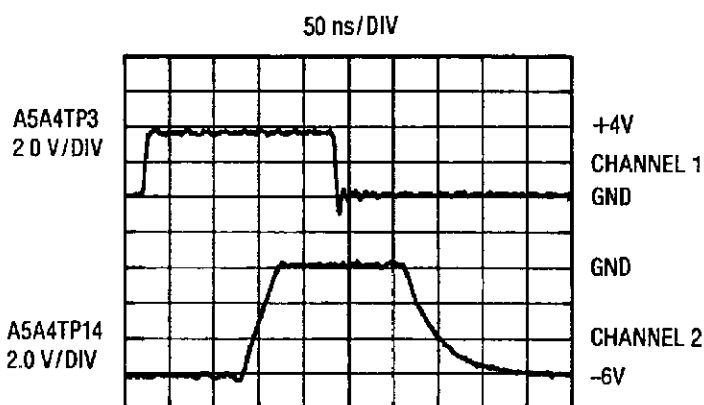

Figure 8-62. Pulse Driver Board Input Pulse and Sample Pulses
45. Connect Channel 1 of the oscilloscope to A5A4TP3 and Channel 2 to A45A4TP14. Adjust the oscilloscope as shown in figure 8-62 and compare the oscilloscope display to the figure.